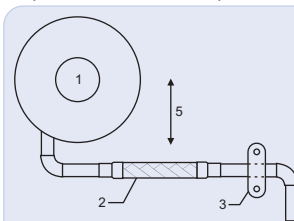

FIG 1 - SINGLE SYSTEM
3. Vibration Eliminators should be installed perpendicular to the direction of vibration. When vibration exists in two planes, two Vibration Eliminators should be used. Refer to Fig 1 and 2.